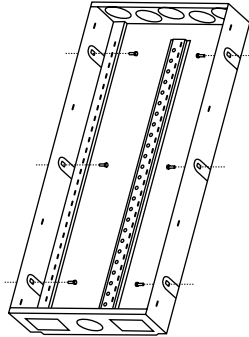

Figure 3-2. Putting the mounting screws into the pilot holes.
3. Make sure that the Pure Home Networking Box is right side up. Align the adjustable mounting tabs with the pilot holes and start tightening the mounting screws into the pilot holes. The mounting tabs will flex in order to fit the opening while keeping the box square. This is normal (see Figure 3-2).